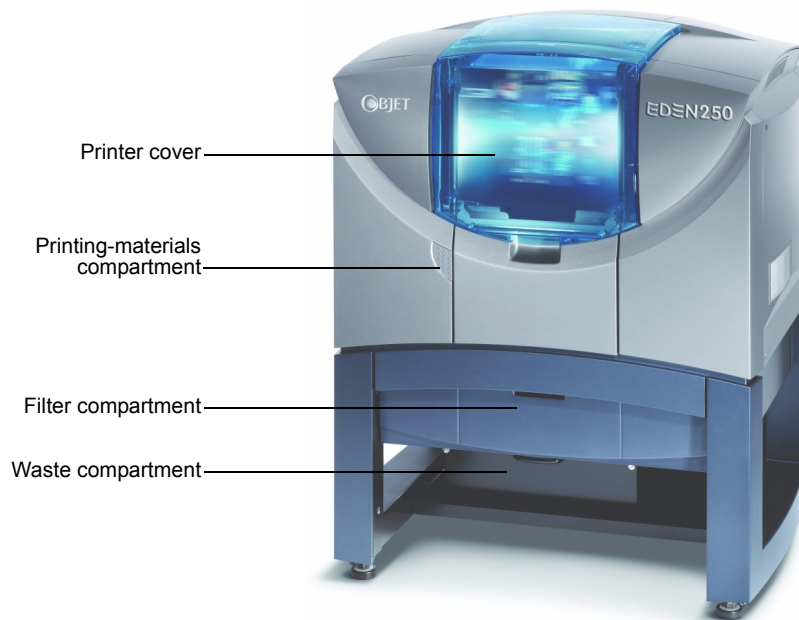

Figure 7-1: The Eden250 3-D Printer
1. On the front of the Eden printer (see figure 7-1), push the door of the printing-materials compartment to release and open it.